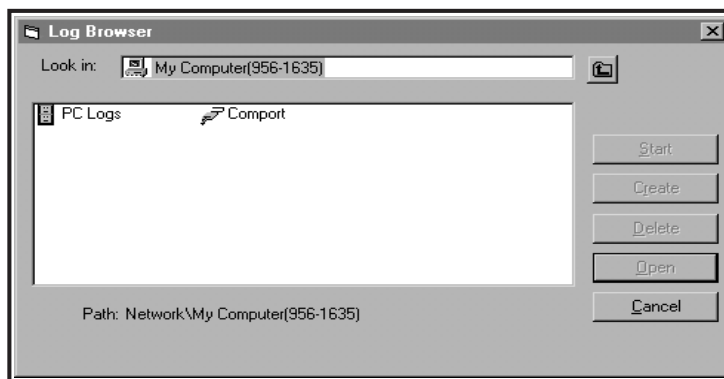

Figure 15: Log Type Selection
2. Double click on the *computer name* to advance to the dialog box shown in Figure 15 on page 62.